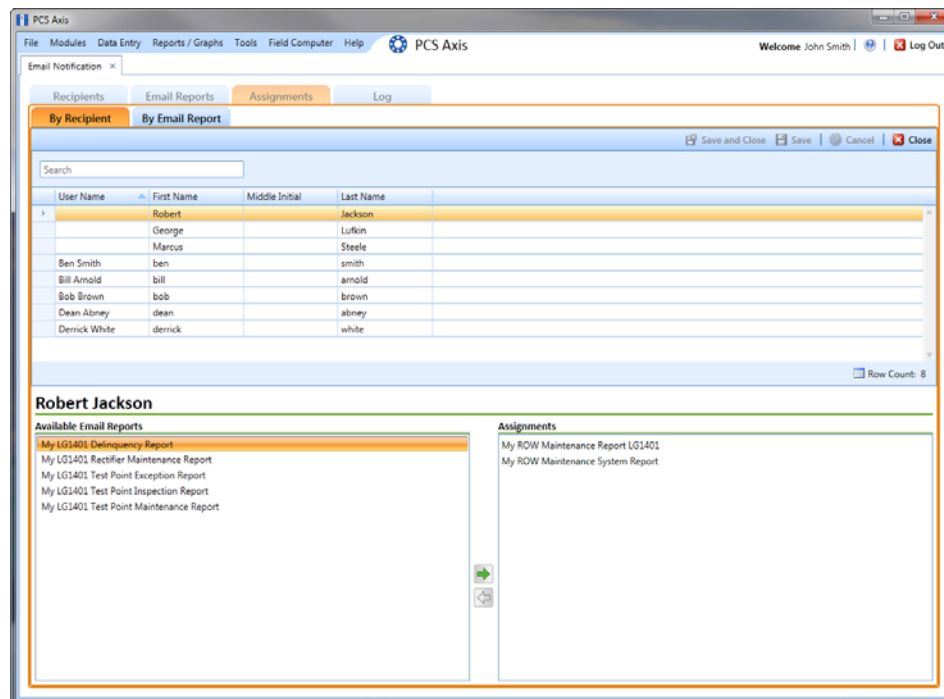

Figure 11-13. Assignments By Recipient
- a Click **By Recipient** **By Recipient** if it is not selected (Figure 11-13, page 464).